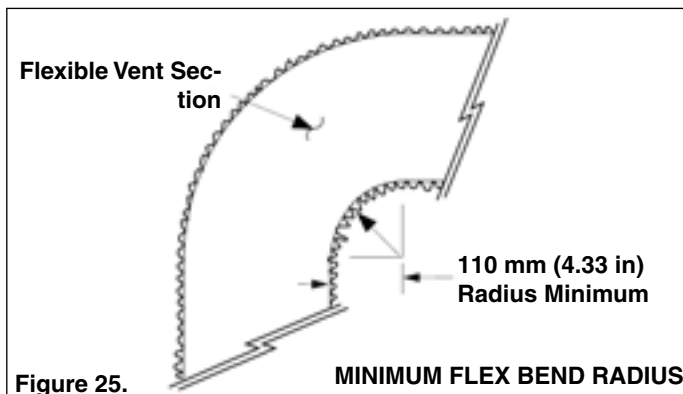

Figure 25.
** Radius minimum to be 110 mm (4.33 in) as shown in Figure 25.
- Connect wires between the control board terminals on the heater and the external relays, as shown in Figure 25 on page 35. Use at least 2 relays per heater, to allow for an "OFF setting" on each heater mode. Select relays that can handle logic level switching. DO NOT apply line voltage to control board terminals.